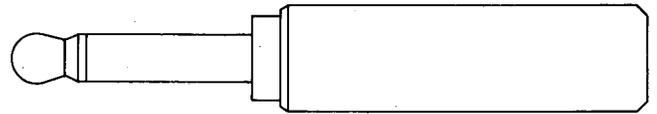

Fig. 21—347C or D Plug
2.20 347C and D: The 347C (red) and D (black) plugs (Fig. 21) have 2-conductors and are equipped with a long shell which covers the cord end of the plug body to provide additional insulation. The 347C and D plugs are used with the 218- and similar-type jacks.